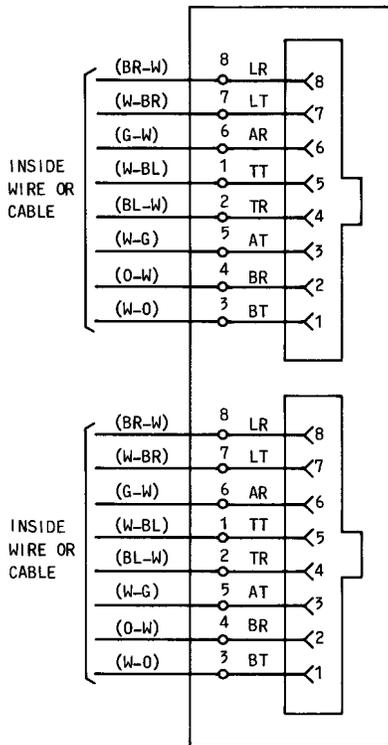
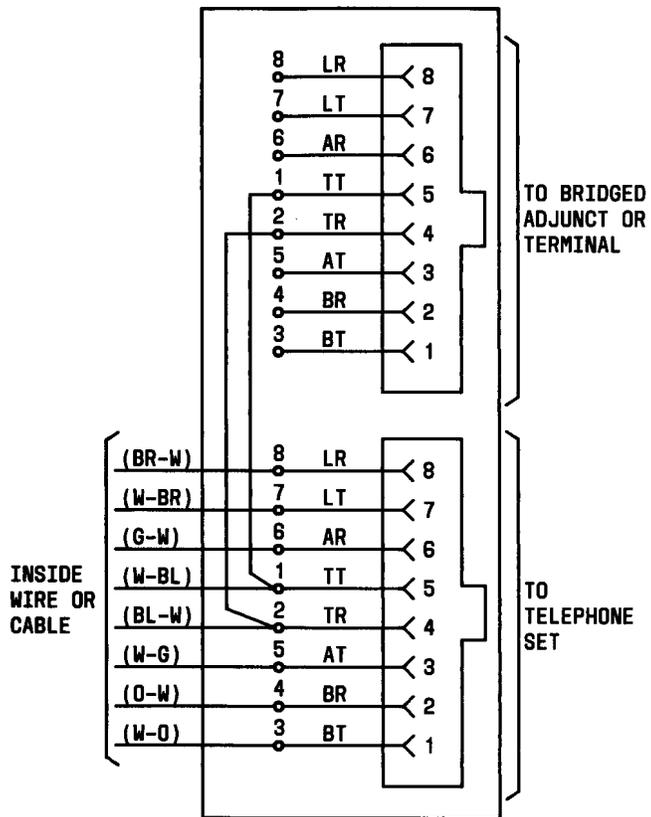

Fig. 11—104A Connecting Block, Schematic
Fig. 12—Bridged Connectors in 104A Connecting Block
2.10 The 104A connecting block is intended to be surface-mounted on a wall, baseboard, or other flat surface, using No. 6 screws, adhesive strips (D-181126 Kit of Parts, ordered separately), or magnets (D-180880 Kit of Parts, ordered separately). It will accommodate surface-dressed or inside wall wiring and is wired as shown in Fig. 11 for two separate telephone sets. Interconnection of connectors between the two quick-connect fields (Fig. 12) is provided by allowing sufficient extra continuous inside wire length (approximately 2 inches) for bridging. The jack positions are numbered 1 and 2 on the connecting block cover, and a writing surface is provided inside the cover so that specific wiring can be recorded for future reference. Mounting orientation is as described for the 103A (paragraph 2.08).